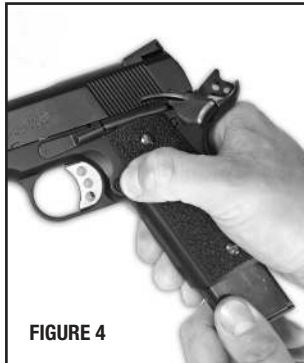

FIGURE 4
- Point the muzzle in a safe direction and depress the magazine release and remove the magazine (FIGURE 4).